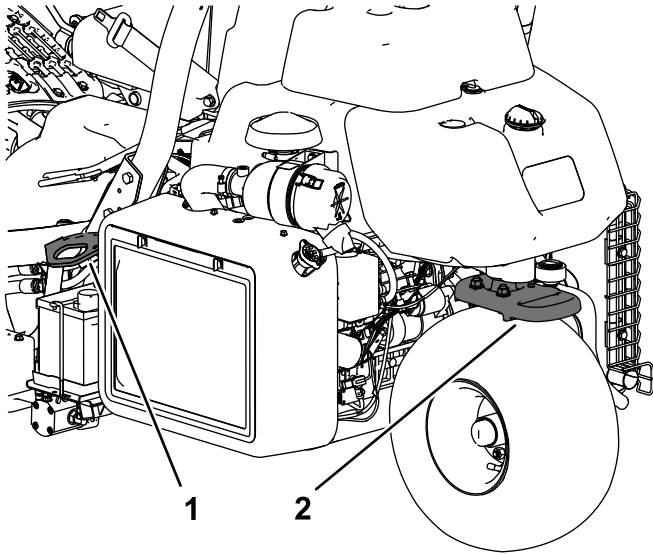

Figure 24
- Tie the machine down securely using straps, chains, cable, or ropes. Both front and rear straps should be directed down and outward from the machine (Figure 24).